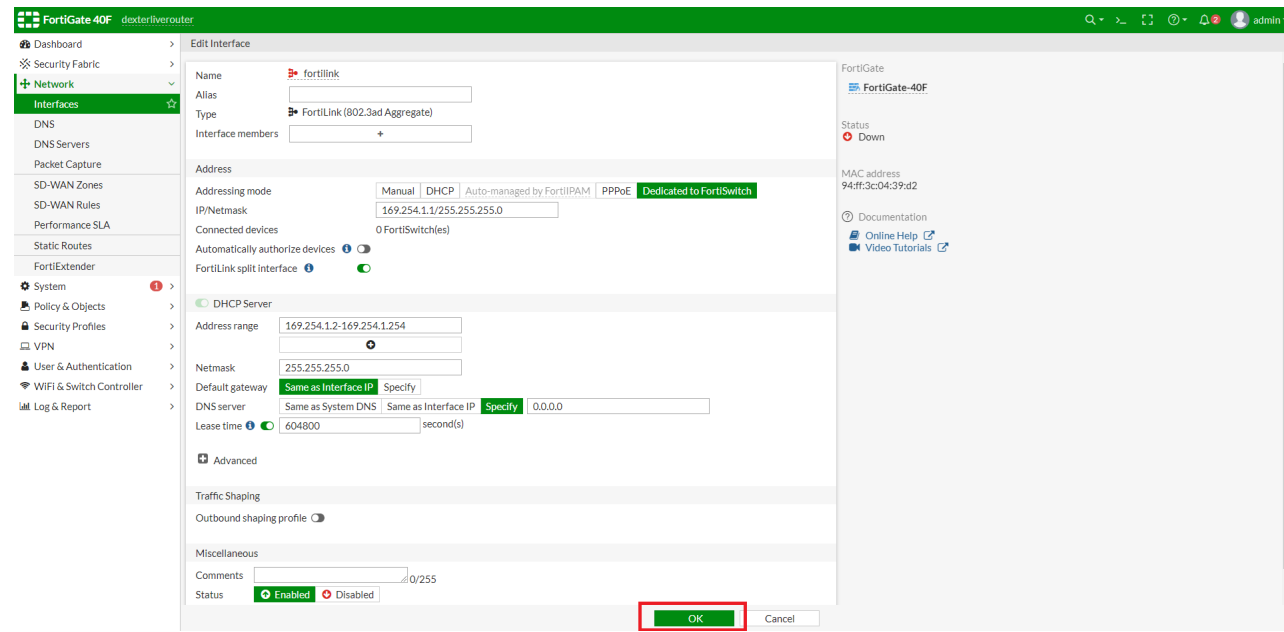

Figure 21
14. Finalize the removal of the fourth port (port A-) from the FortiLink Interface by selecting "OK". (Figure 21)